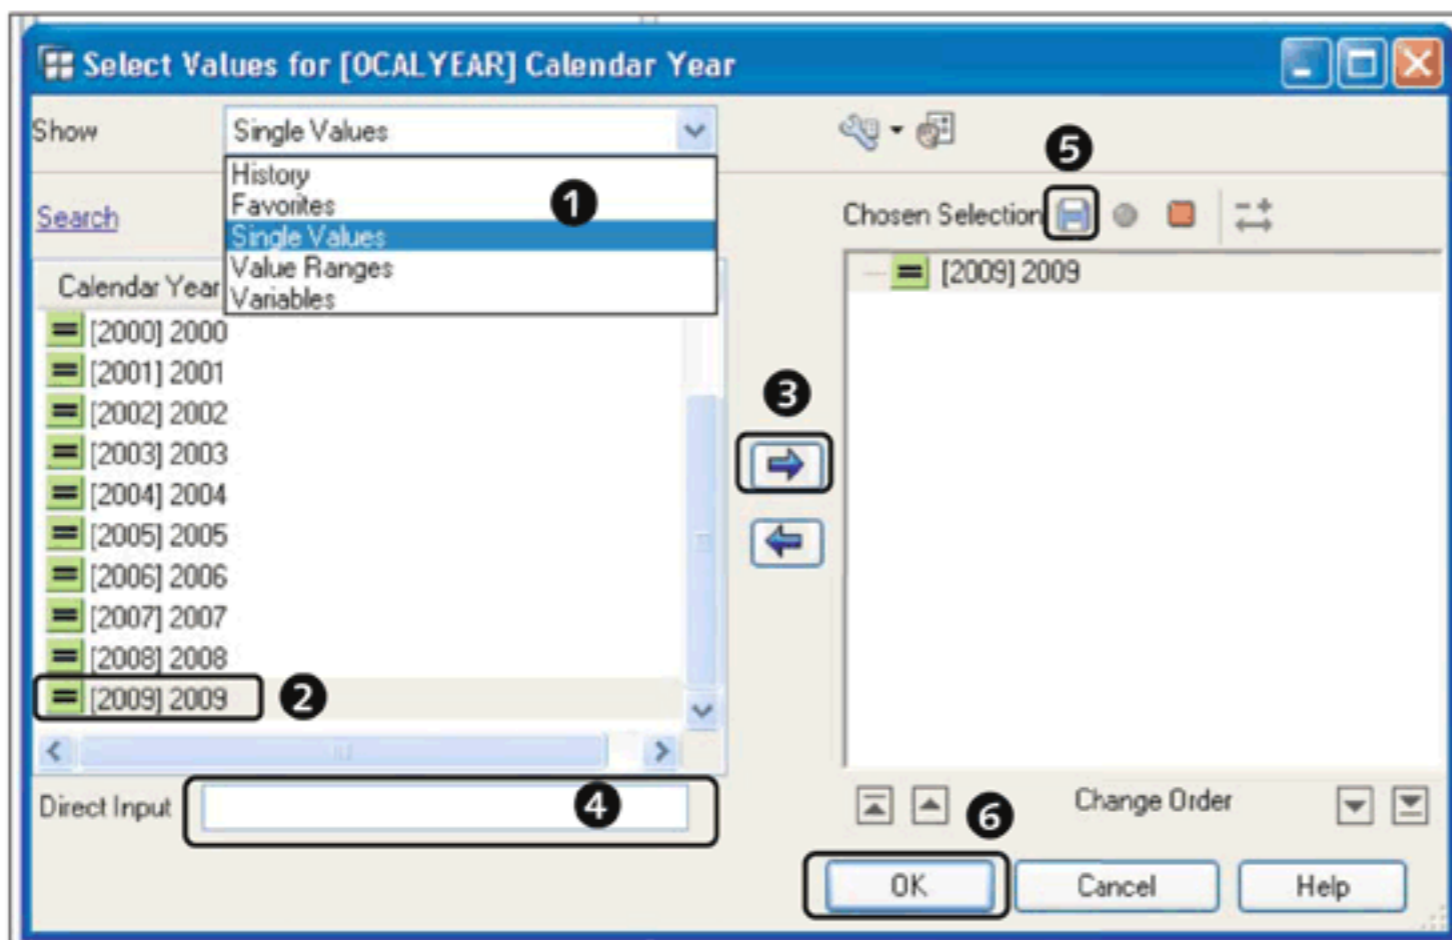

Figure 9.10 Select Filter Values for a Characteristic
After you select RESTRICT, a selection window pops up where you can define the values with which you want to restrict the characteristic (see Figure 9.10).
You can restrict the characteristic either with a single value or with a range, or you can choose to use a variable to restrict the characteristic. Select the appropriate option from the dropdown (❶ of Figure 9.10).